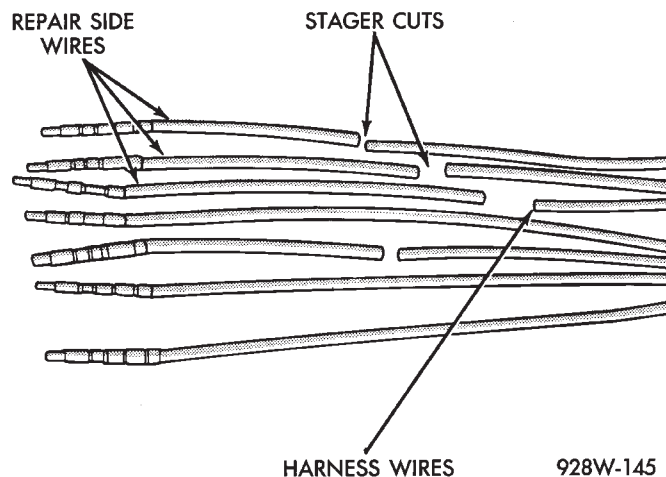

Fig. 19 Stagger Cutting Wires
- (1) Disconnect battery.
- (2) Disconnect the connector (that is to be repaired) from its mating half/component.
- (3) Cut off the existing wire connector directly behind the insulator. Remove six inches of tape from the harness.
- (4) Stagger cut all wires on the harness side at 1/2 inch intervals (Fig. 19).
- (5) Remove 1 inch of insulation from each wire on the harness side.
- (6) Stagger cut the matching wires on the repair connector assembly in the opposite order as was done on the harness side of the repair. Allow extra length for soldered connections. Check that the overall length is the same as the original (Fig. 19).